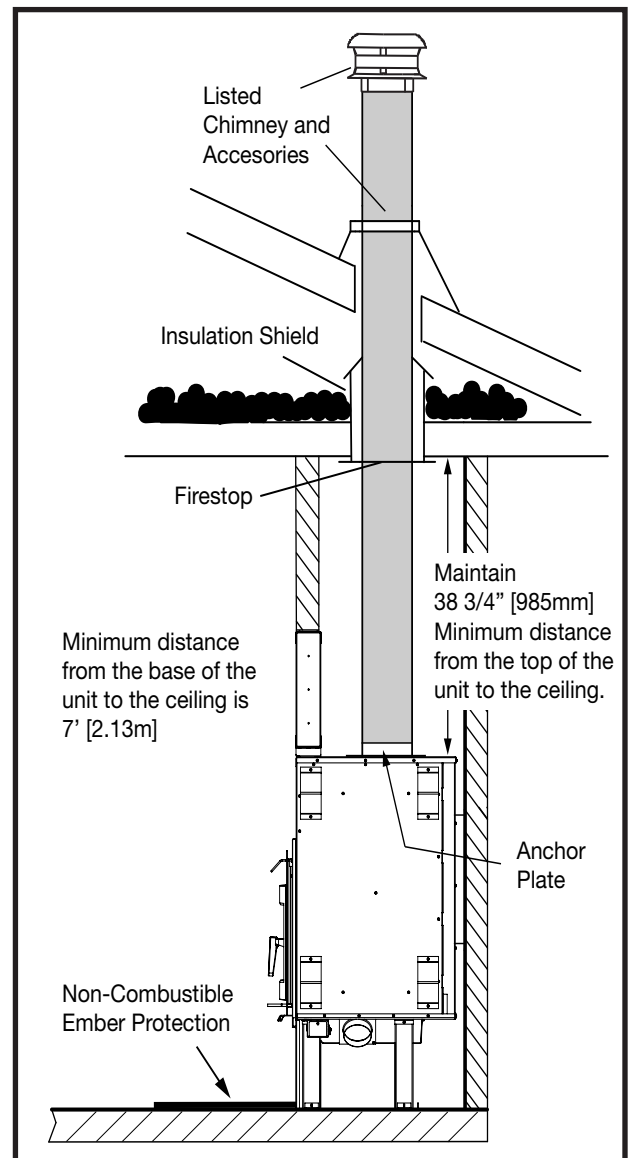

Figure 10: FP25LE Basic installation.
2. Install the necessary chimney lengths to achieve the required offset. Lock the chimney lengths together according to the chimney manufacturer's instructions. If the offset length is made of two (2) chimney lengths or more, many chimney manufacturers may require that you use an offset or roof support halfway up the offset. If penetrating a wall, install a wall radiation shield supplied by the chimney manufacturer and install according to the manufacturer's instructions.
4. Use a plumb bob to line up the centre of the hole with the center of the flue collar on the fireplace. Cut a hole for the chimney in the ceiling/floor. Frame the hole as described in Figure 10 on page 18.